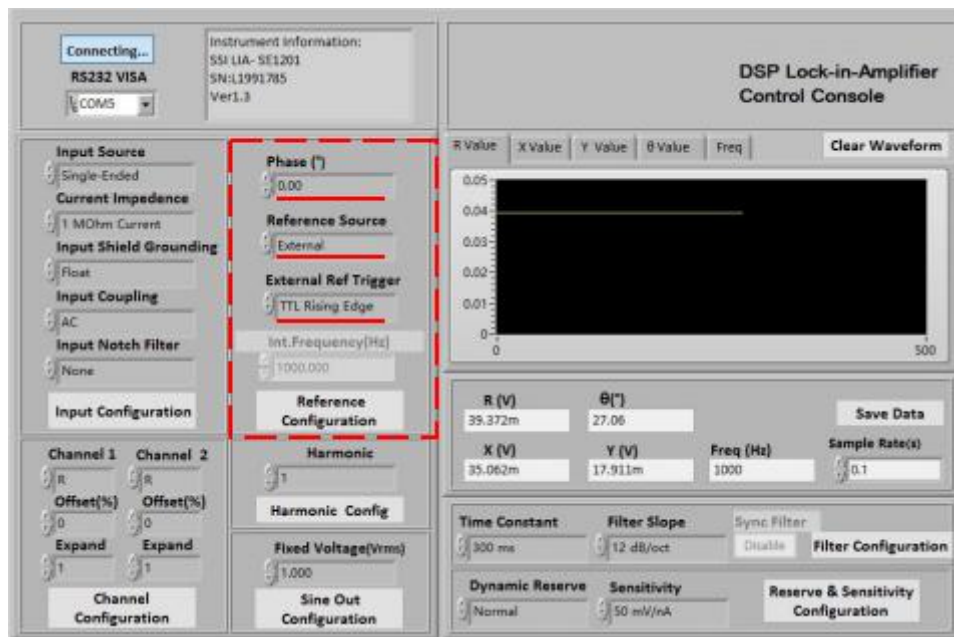

Fig.49 Reference Configuration
2. Choose the following options in “Reference Configuration”, including “Phase”, “Reference Source”, “External Ref Trigger” with other options in default, as is shown in Fig.49. At last, click the button **Reference Configuration** to finish the configurations.